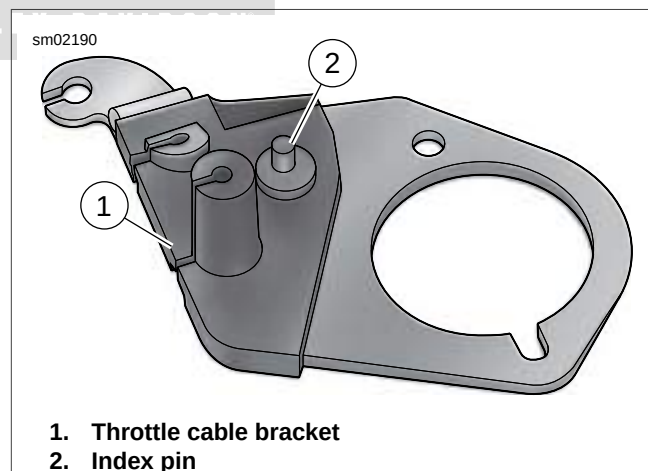

Figure 4-26. Throttle Cable Bracket
3. See Figure 4-26. Insert index pin (2) at bottom of throttle cable bracket into hole in boss at top of induction module.